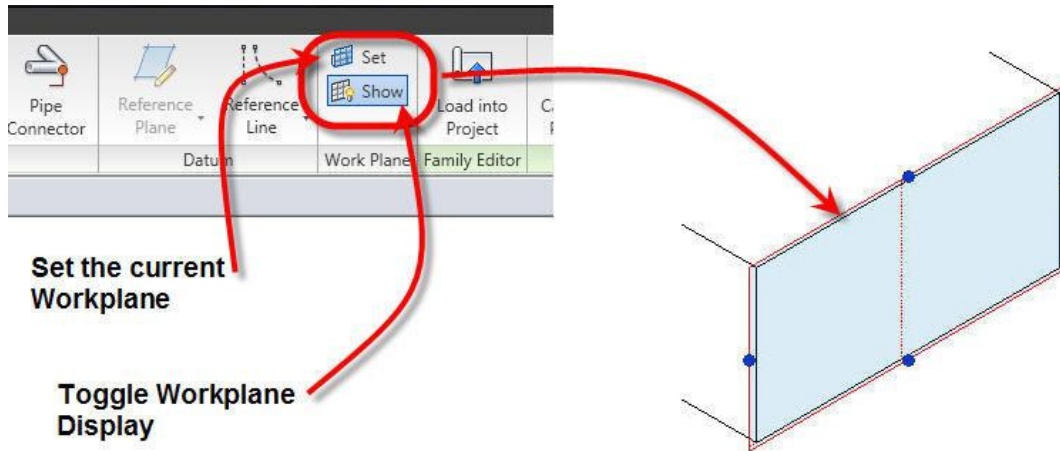

Figure 8. Setting the current Work Plane and toggling display.
5. Check and set the Work Plane for the sketch geometry. It is important to do this first, if for no other reason than to ensure that you’re drawing the sketch where you think you are (see Figure 8). Note that you can also set the current Work Plane at any time by selecting the Work Plane
tool on the “Create” ribbon, and you can display the current Work Plane using the Work Plane Display toggle on the ribbon as well (see Figure 8).